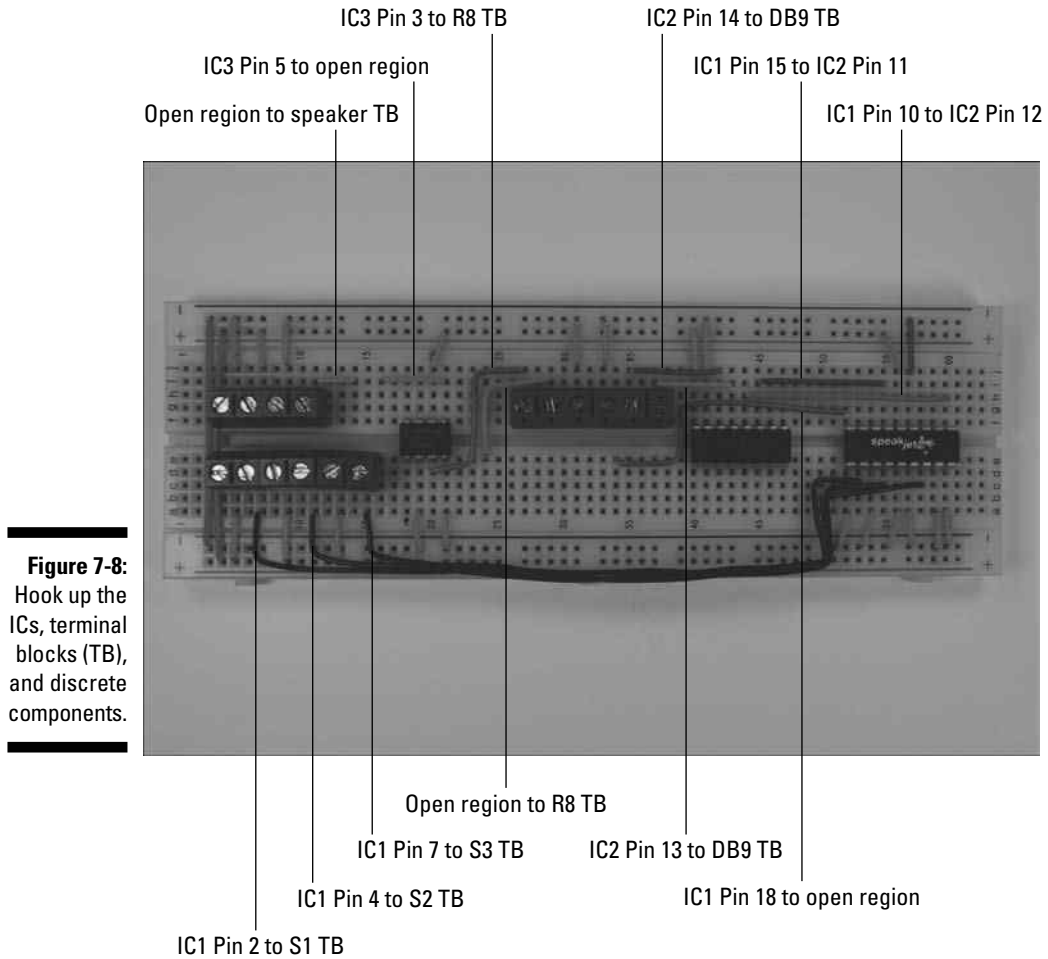

Figure 7-8:
4. **Insert wires to connect the ICs; terminal blocks for the potentiometer (R8) and tactile switches (S1, S2, S3); and discrete components, as shown in Figure 7-8.**